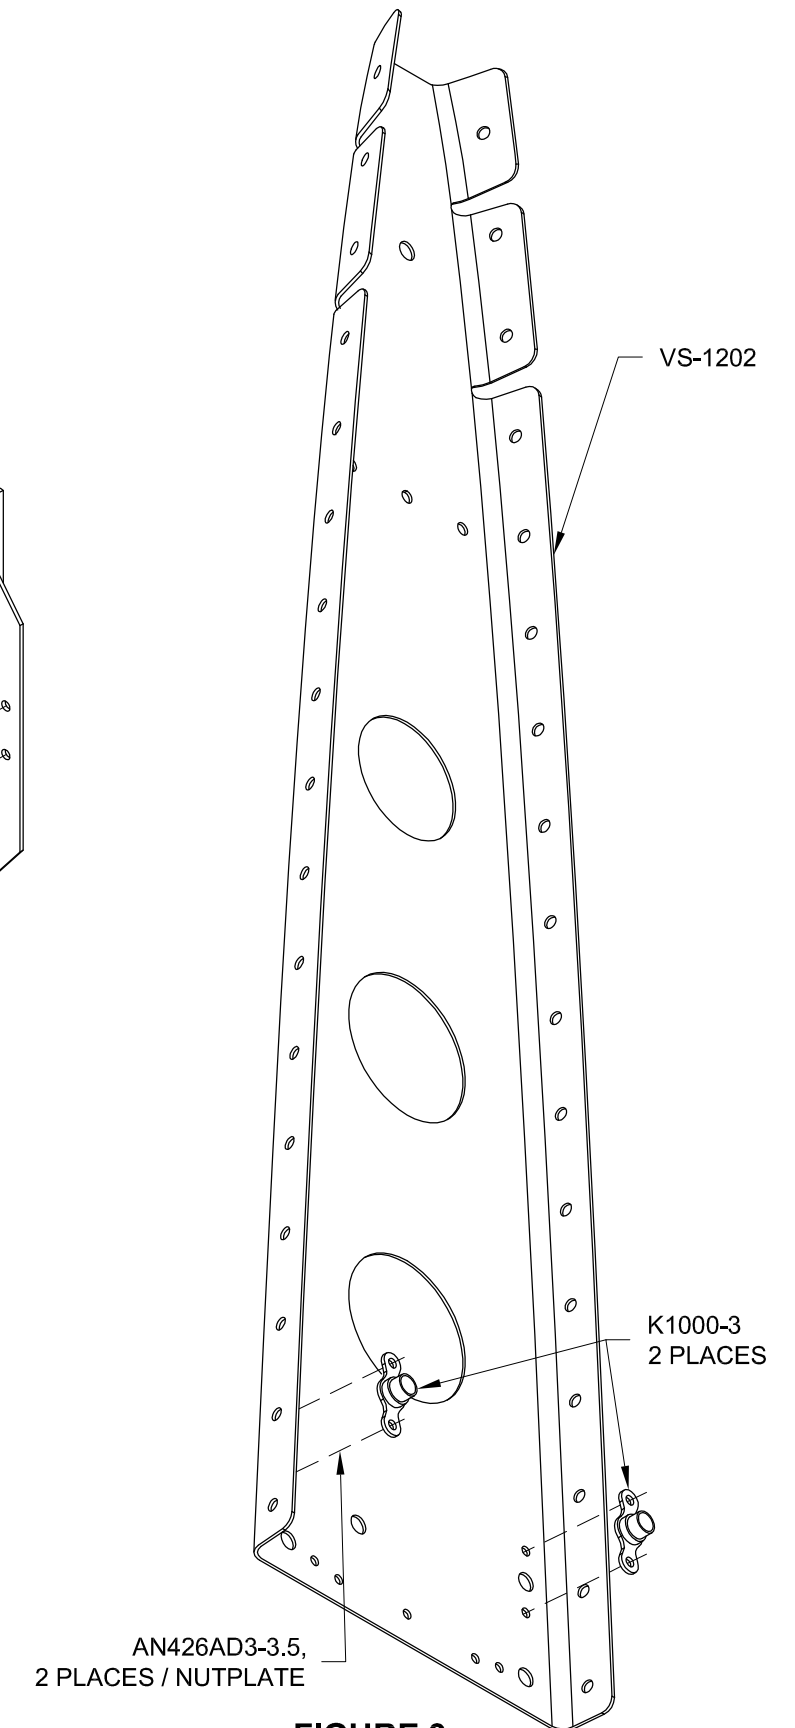

FIGURE 3:
Step 7: Rivet the nutplates to the VS-1202 Front Spar per call-out in Figure 3.